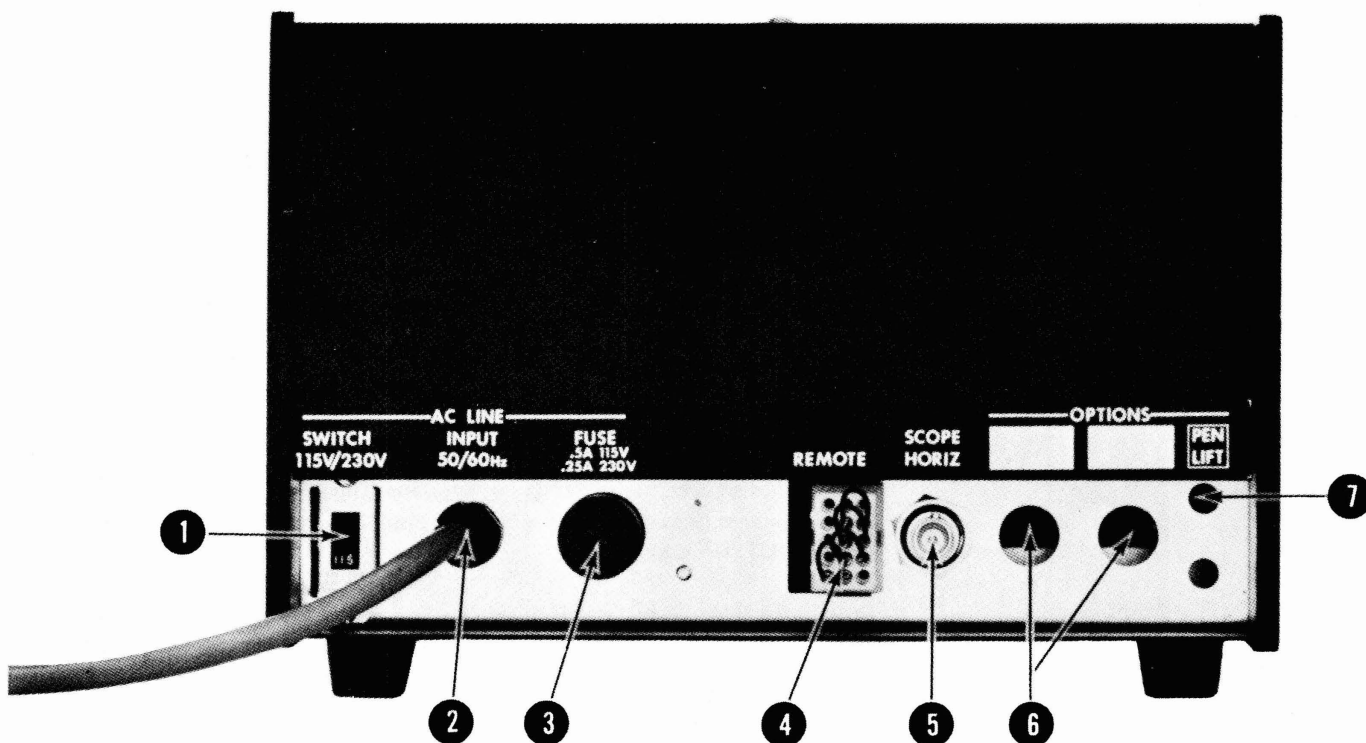

Figure 3-2. Rear Panel
3.3 DESCRIPTION OF REAR PANEL (Refer to Figure 3-2 for location)
- ① SWITCH 115/230V – Selects 115 or 230 V line voltage.
- ② INPUT 50/60Hz – 3 prong AC plug provides connection to AC mains.
- ③ AC LINE FUSE – 0.5A for 115 V AC or 0.25A for 230 V AC.
- ④ REMOTE Jack – Provides connection for programming of frequency, sweep width and RF output level. (See paragraph 3-6 for detailed instructions). This jack is supplied with a mating “jumped plug” which provides Front Panel control.
- ⑤ SCOPE HORIZ. Jack – BNC jack provides connection to (X) axis of oscilloscope or plotter. This connector is in parallel with the SCOPE HORIZ. connector located on the Front Panel.
- ⑥ OPTIONS — Provides mounting holes for BNC connectors used with special modifications or options.
- ⑦ PEN LIFT OPTION (A-5) — When Pen Lift Option is installed, these 2 terminals provide contact closure during sweep "ON" time. This option operates only when the Front Panel SWEEP TIME Selector is set to the 100-10 SEC. position.